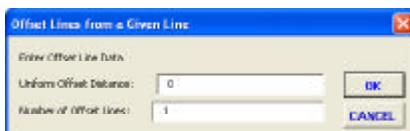
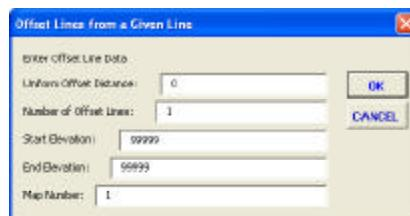

Figure 4
Figure 5
to that shown in Figure 4 or Figure 5 will be displayed.
**3rd**, the extended data, see Figure 5 (data lines 3, 4 and 5). These data lines appear only if the Enter Extended Data property is active. If it is not, then only the first two data fields will appear, see Figure 4. Note that the [AVcad Properties...] command can be used to control the setting of the Enter Extended Data property. The default elevations displayed in Figure 5 are those of the base element.
**3rd**, the extended data, lines 3, 4 and 5 of Figure 5, provided that the *Enter Extended Data* property is active. The default elevations displayed are those of the base element.